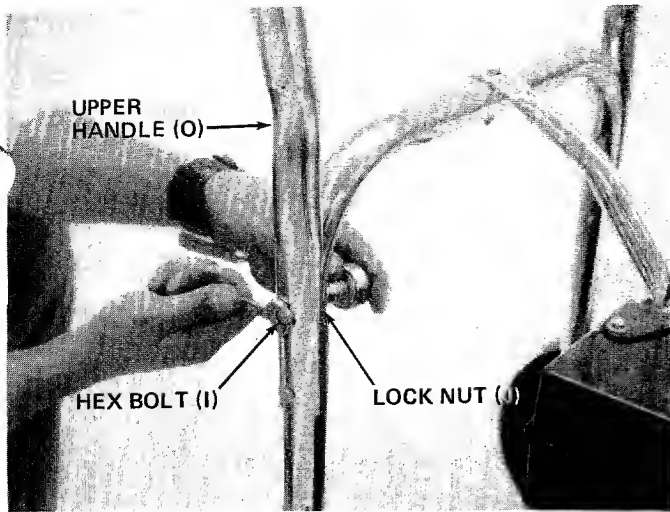

FIGURE 4.
2. Place the upper handle (O) in position over lower handle. Fasten with four hex bolts (I) and lock nuts (J) provided. See figure 4. Two 7/16" wrenches are required.